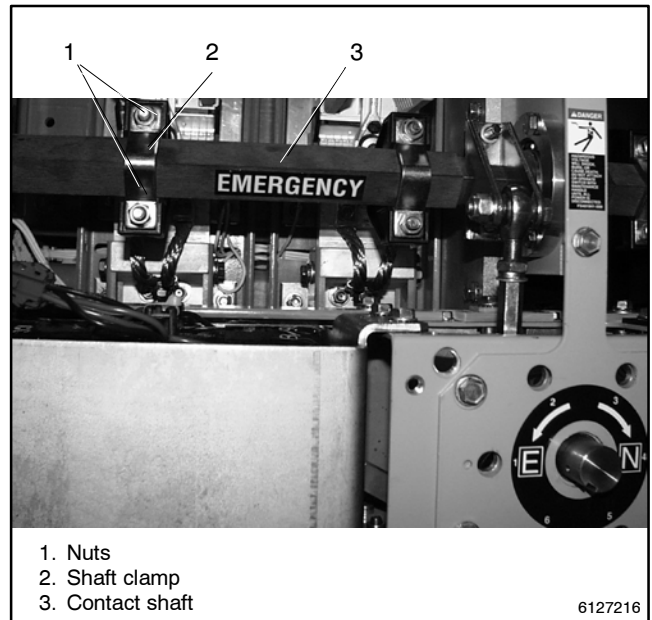

Figure 11-13 Movable Contact Shaft Clamps
2. Disconnect the crank arm from the shaft. Use a 1/2 in. socket wrench to remove the two nuts with lock washers from each shaft clamp. Then remove the loose clamp from the shaft. Save all hardware. See Figure 11-13.